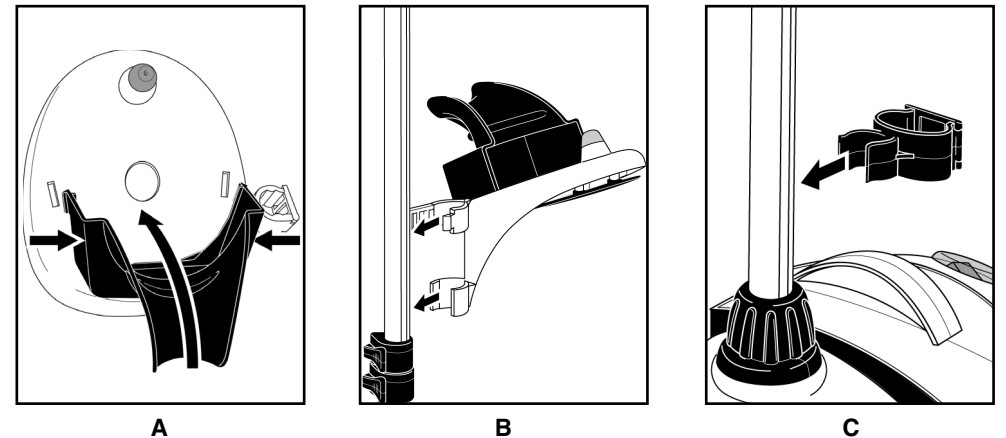

FIGURE 5
- While squeezing in on sides of Nozzle Holder, swing top of Holder inward and insert top two pegs into upper holes as shown (FIGURE 5-A).
2. Connect assembled Nozzle Station to Telescopic Pole, using Station's two grips. Open clasp on top grip, then press Nozzle Station onto SECTION 2 of Telescopic Pole (FIGURE 5-B).
1. Connect Cord Clasp to SECTION 4 of Telescopic Pole, by pressing grip onto Pole (FIGURE 5-C).